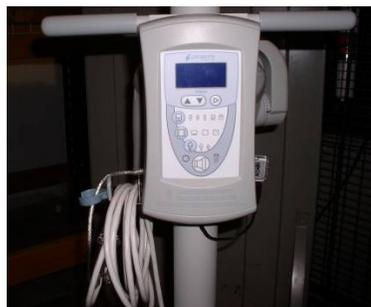

Figure 23
9. Attach the control panel on to the cradle (see Figure 23 on page 17).